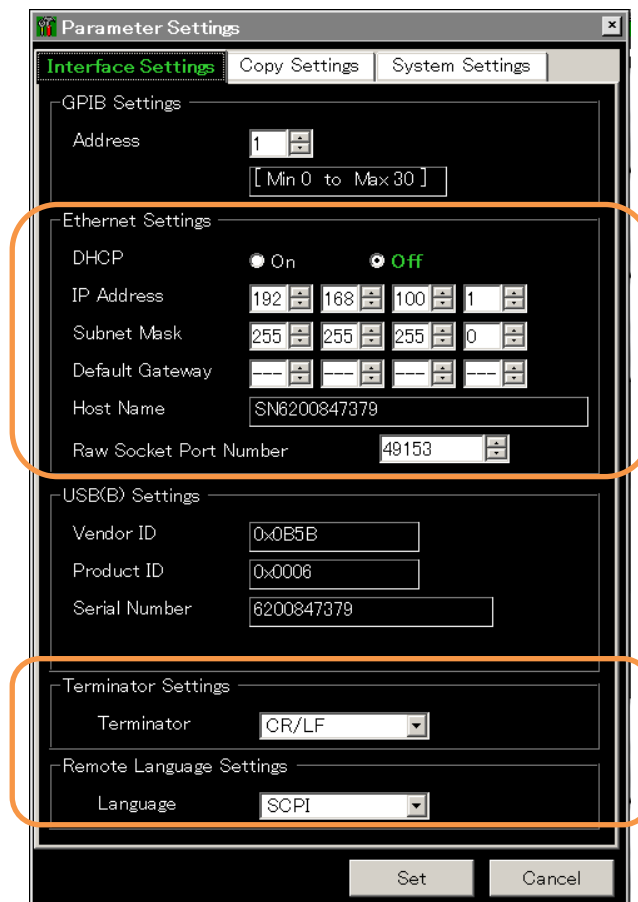

Figure 2-2. Interface Settings Screen
- (1) Click  (System Config) to display the Configuration screen. Next, click  (Interface Settings) to display the Interface Settings screen shown in *Figure 2-2*.
- (2) Confirm and set the network settings.